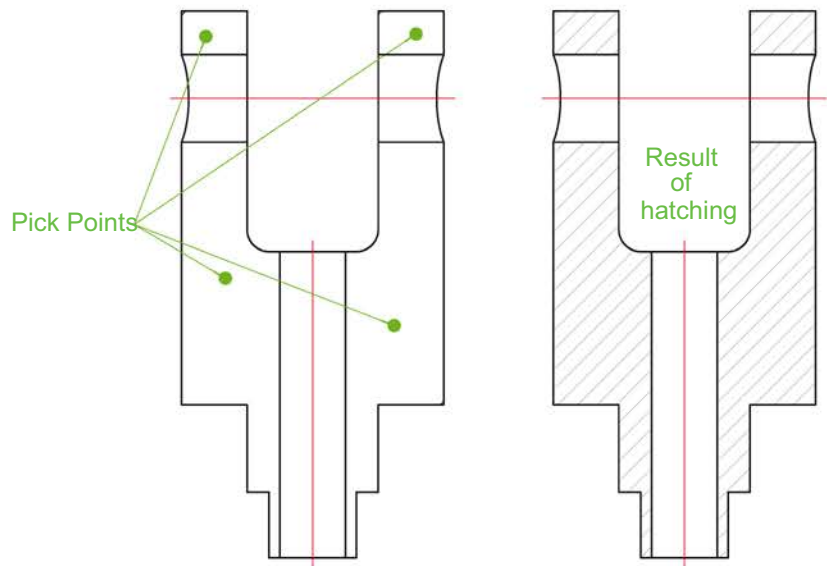

Fig. 8.16 The result of hatching
- Pick* the points in the front view (left-hand drawing of Fig. 8.16) and the *picked* points hatch. If satisfied the hatching is correct, *right-click* (right-hand drawing of Fig. 8.16).